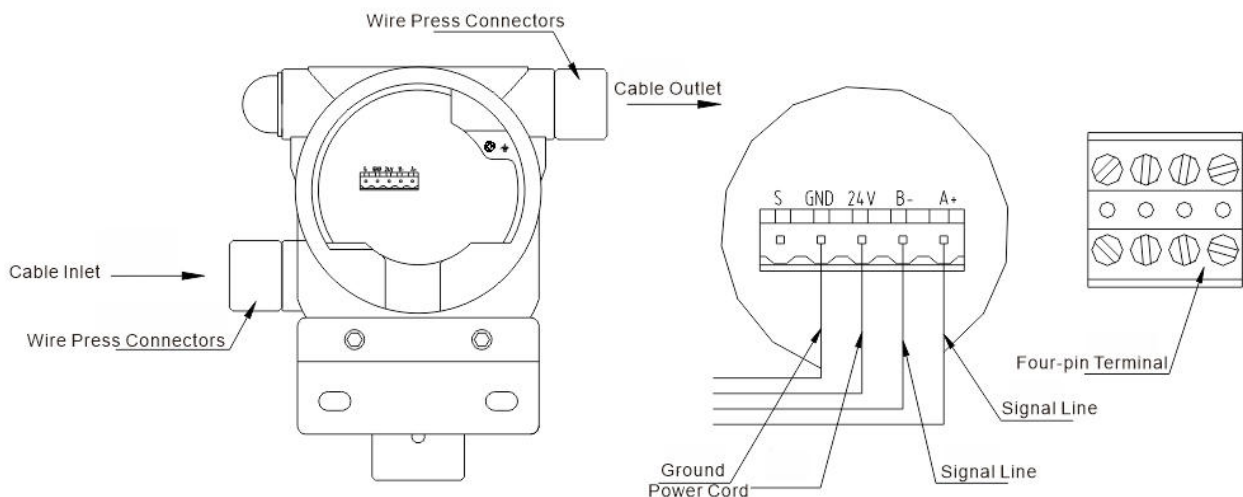

FIG 4.3
- b. Connect the four wires of the four-core cable to the corresponding positions of the detector terminal block, as shown in Figure 4.3 below: